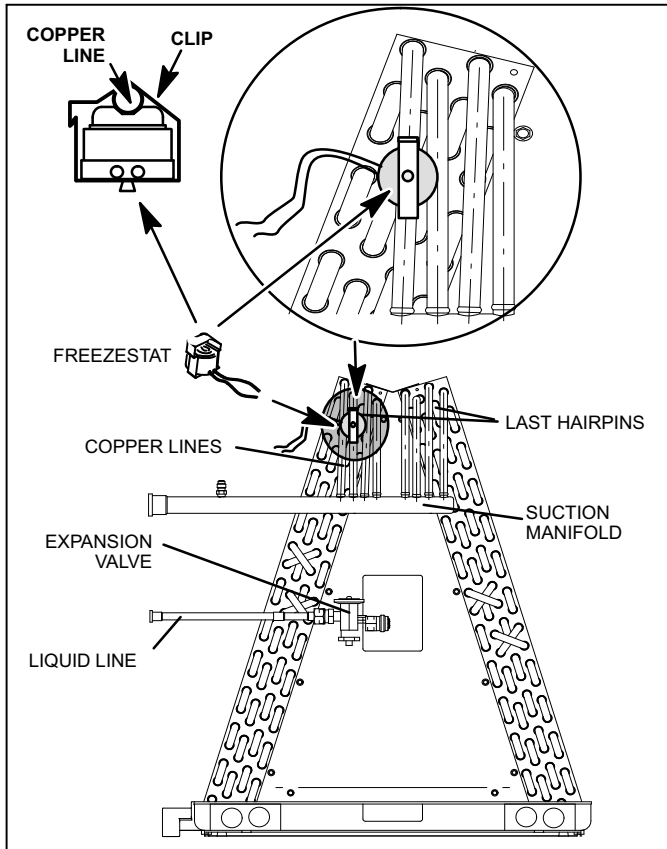

**Figure 3. Typical Field Wiring of Low Ambient Control Pressure Switch (S11)**
3a. If the unit has a mechanical fitting high pressure switch, remove the switch and install the end of the tee to the pressure tap fitting where you removed the high pressure switch. Connect the unit high pressure switch onto the last port with the valve core. Run the wires in the back of the control panel through the hole with the compressor wires. Wire the pressure switch per figure 3 wiring diagram. Make all electrical connections in the control box.
3b. If the unit does not have a mechanical fitting high pressure switch, install tee fitting on the condensing unit liquid line service port. Run the wires up into the control box. Wire the pressure switch as per figure 3 wiring diagram. Make all electrical connections in the control box.
5. - Low ambient control pressure switch (S11) is wired in series with condenser fan. See figure 3 for typical field wiring for the low ambient control pressure switch.